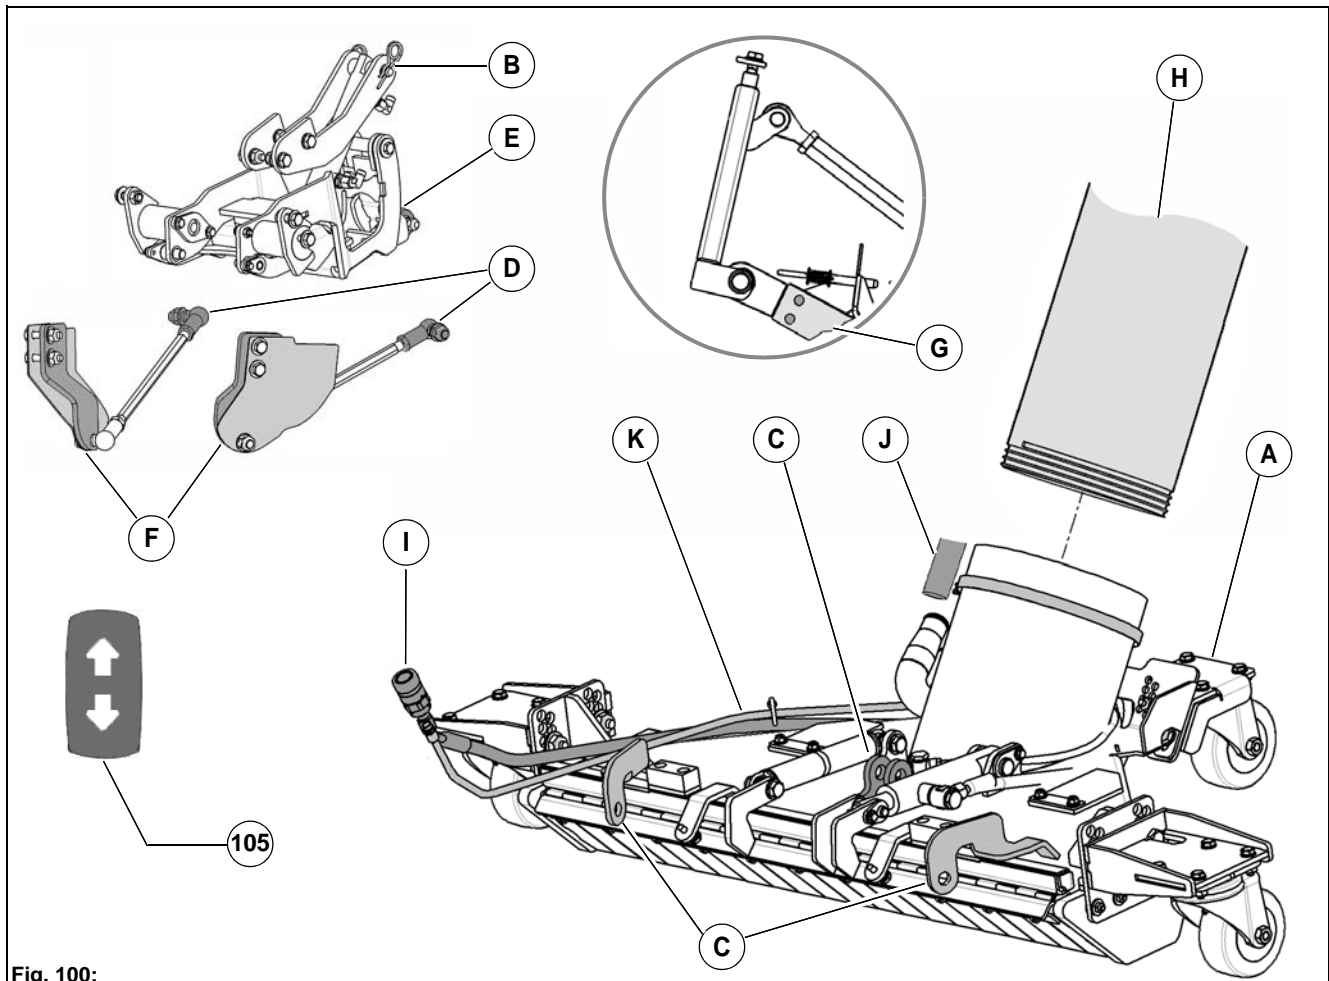

Fig. 100:
3. Push the suction mouth **Fig. 100-A** centrally under the lift system **Fig. 100-B**.
4. Align the jacking points **Fig. 100-C** of the suction mouth to the arm **Fig. 100-D** and the swivel head **Fig. 100-E** of the lift system.
7. Attach the holder and baffle plate **Fig. 100-F** to the frame of the front tool carrier **Fig. 100-G**.
- Slightly grease the suction hose **Fig. 100-H** and attach it to the suction duct.
- Connect the hydraulic hose **Fig. 100-I** for the coarse material flap.
- Attach the circulating water hose **Fig. 100-J** to the suction duct.
- Attach the fresh water hose **Fig. 100-K** to the suction duct.